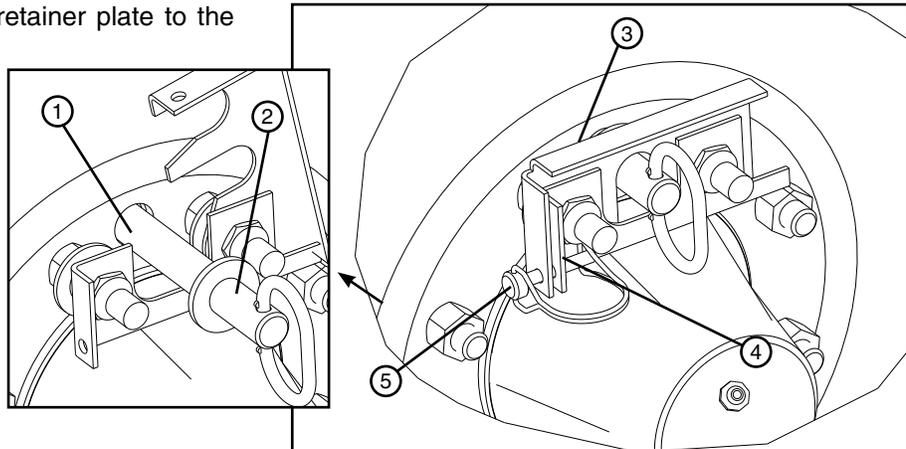

Figure 32-2 1. Hub Torque Pin Receiver 4. Retainer Clip
- Rotate the tire until the hole in the hub torque pin receiver is aligned with the hole in the axle torque arm. Install the torque pin and close the retainer plate. Secure the retainer plate to the retainer clip with the lynch pin. See figure 32-2.